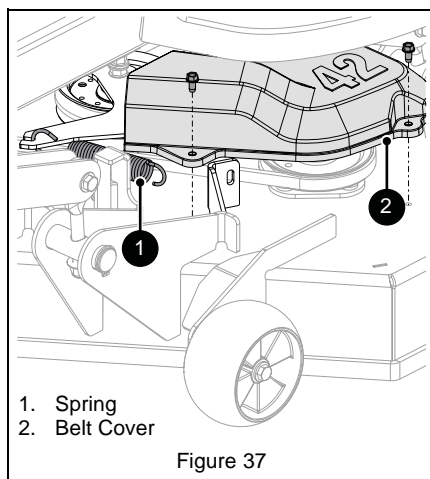

Figure 37
See Figure 37.
11. Reinstall belt cover and secure with three self-tapping screws removed earlier. See Figure 37.